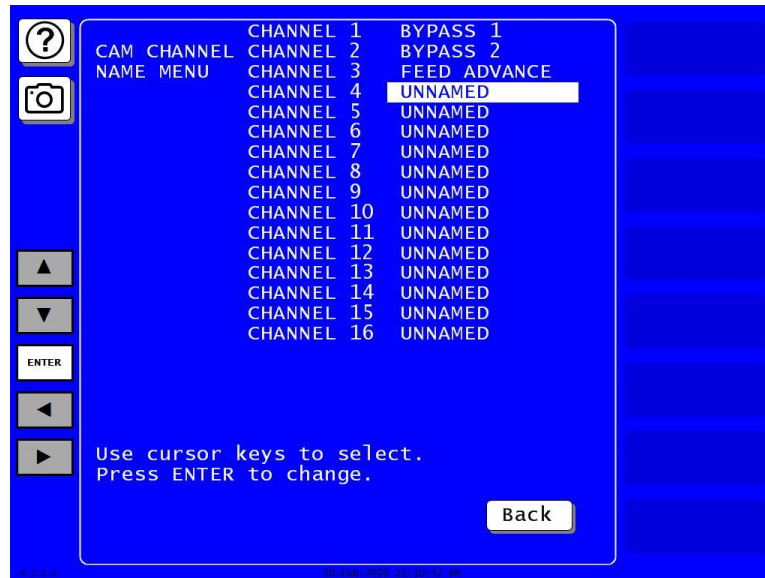

Figure 4-10. Cam Channel Name Menu
1. Press SELECT CAM NAMES on the Main Initialization Menu. The Cam Channel Name Menu, shown in Figure 4-10, displays. The first time you access this screen, all channels are named “UNNAMED.”